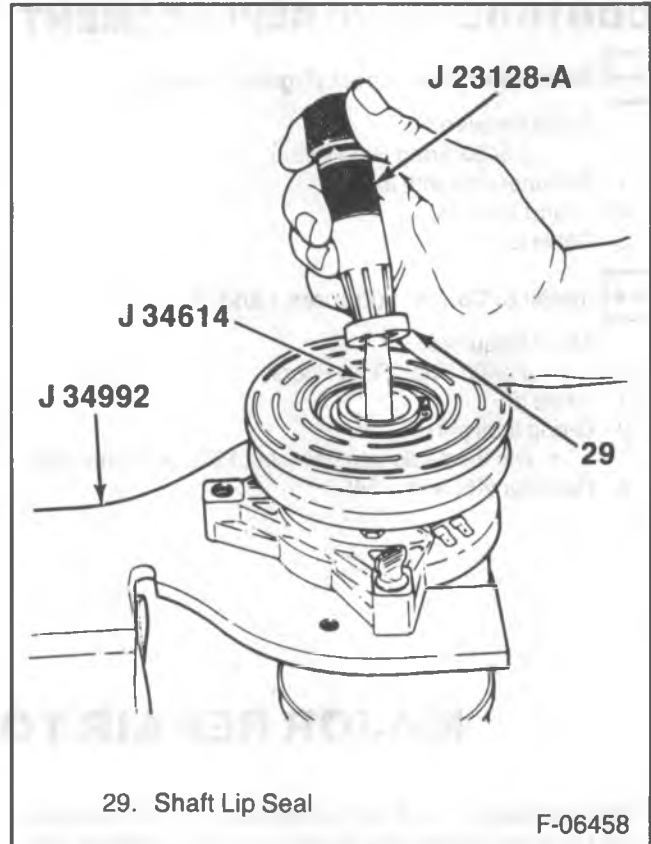

Figure 22—Removing or installing the Shaft Seal
1. Clutch plate and hub assembly (22).
2. Shaft seal retainer ring using J 5403 (figure 22).
- Clean the compressor neck area around the shaft (38), the exposed part of the shaft seal (29) and the O-ring seal groove.
- 3. Shaft lip seal using J 23128-A (figure 22).